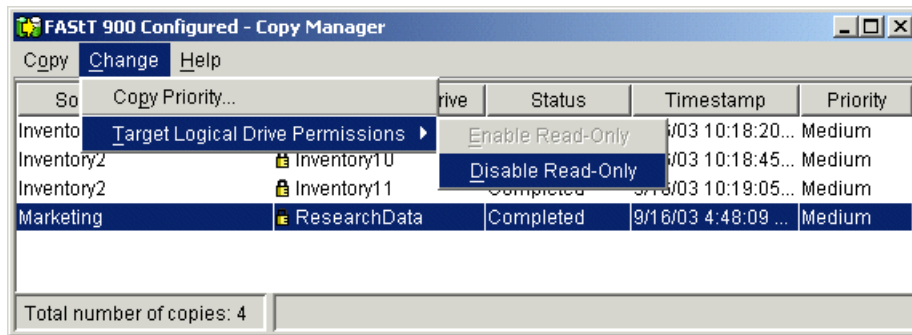

Figure 9-20 Copy Manager - Disable Read-Only menu
3. Select either the **Change -> Target Logical Drive Permissions -> Disable Read-Only** pull-down menu option, or **Disable Read-Only** from the right-mouse pop-up menu (Figure 9-20).